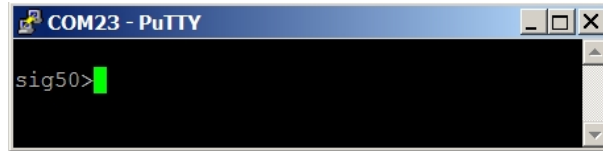

Figure 5: Open terminal window for module configuration via serial line
Click on „Open” button in „PuTTY” program and open the terminal window. After pressing of „ENTER” key there will appear a command prompt „sig50” which announces that the module is ready to be configured (see figure 5).
- the command must be entered only when a prompt for command appears in front of the cursor mark (colored or flashing little square); the prompt is either „sig50” or „mon” format (see figure 5);